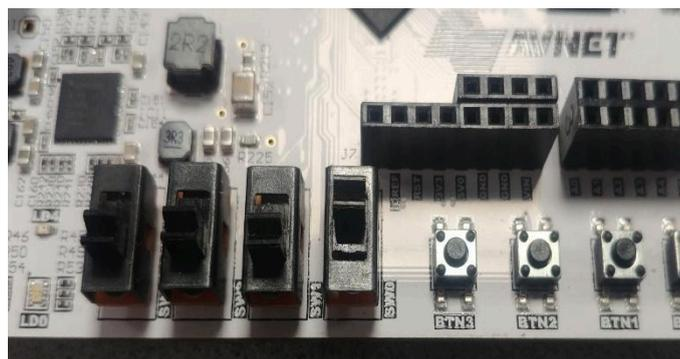

Figure 4: Switches to start the FPGA
7. To start the FPGA, set the switches, i.e. SW3 = SW2 = SW1 = 'DOWN', SW0 = 'UP', as shown in Figure 4.